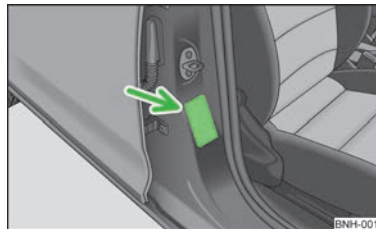

Fig. 87
- This is also clearly stated on the sticker which is located on the B column on the front passenger side » Fig. 87. The sticker is visible upon opening the front passenger door. For some countries, the sticker is also affixed to the sun visor of the front passenger.